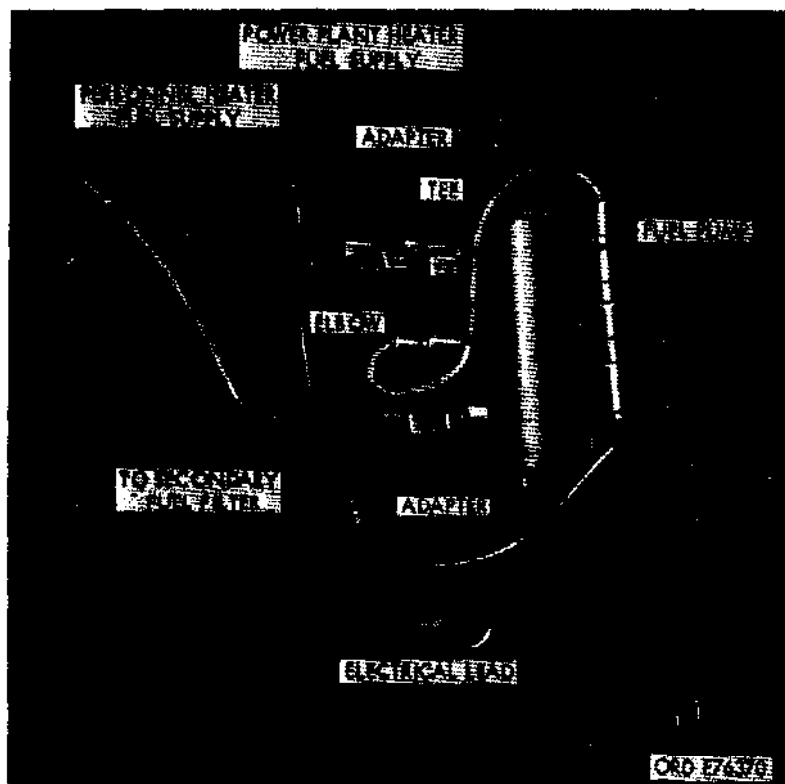

Figure 676. Electric fuel pump installed.
- (1) Attach one arm of tee 444147 to upper opening of fuel pump (Fig. 676) with